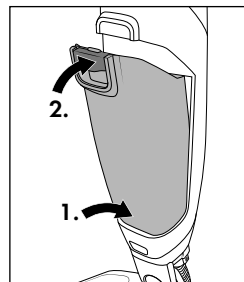

Fig. 15
- ◆ Push the dirt container 10 into the motor unit 8 until it clicks into place (see fig. 15).